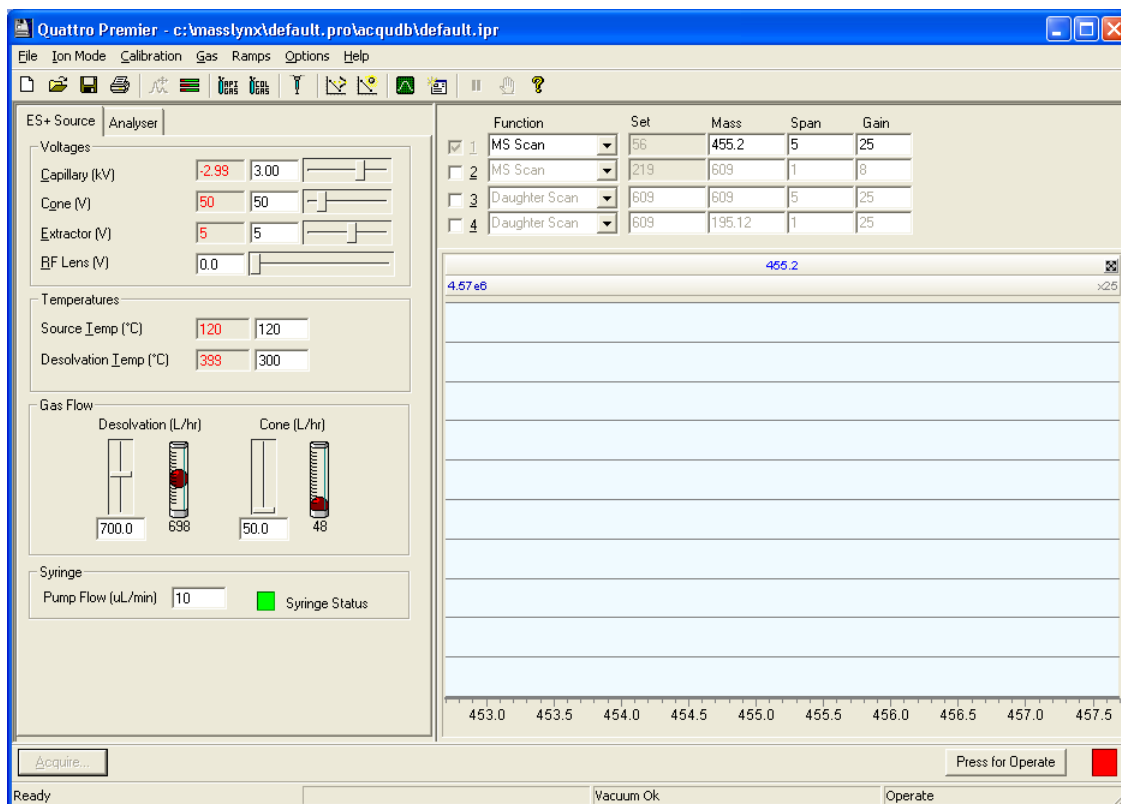

Figure 2-5 Tune Window ES+ Source Page
4. In the MassLynx Tune window, select Ion Mode > Electrospray+ to display the ES+ Source page (Figure 2-5).